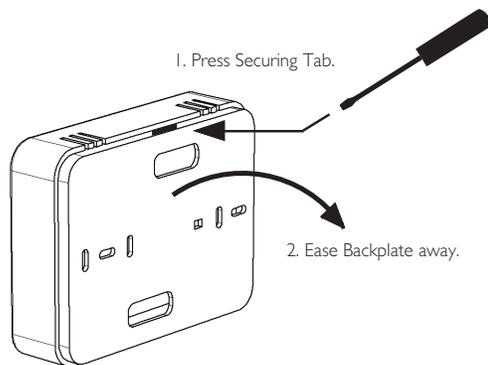

Fig 10. Receiver & Access Tab
3. Remove the Receiver backplate by carefully prising it away from the body. Fig. 10.